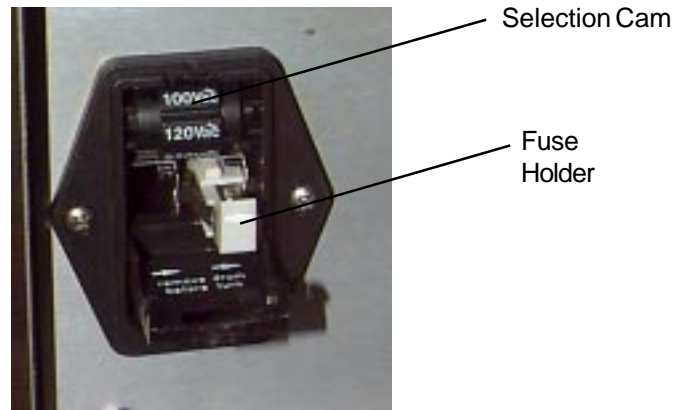

Figure 3.4 Power Entry Module
The design of the power entry module requires the line cord be disconnected before either the voltage select switch is changed or a line fuse is removed. Perform the following steps if it is necessary to change the setting of the line voltage select switch. (Refer to Figure 3.4)
3.5.1.2 Main Power Fuse (Figure 3.4)